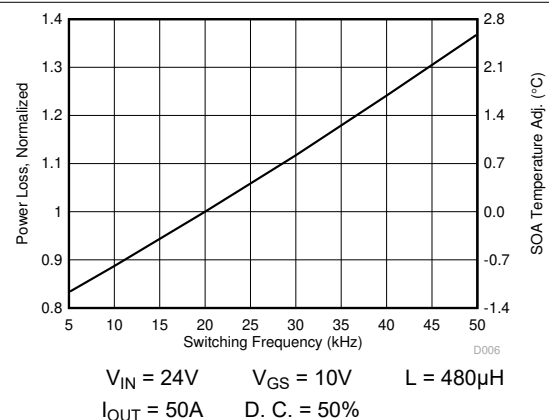

Figure 4-4. Normalized Power Loss vs Switching Frequency
- Normalized power loss for switching frequency ≈ 1.24 (図 4-4)
- SOA adjustment for switching frequency $\approx 1.7^{\circ}C$ (図 4-4)